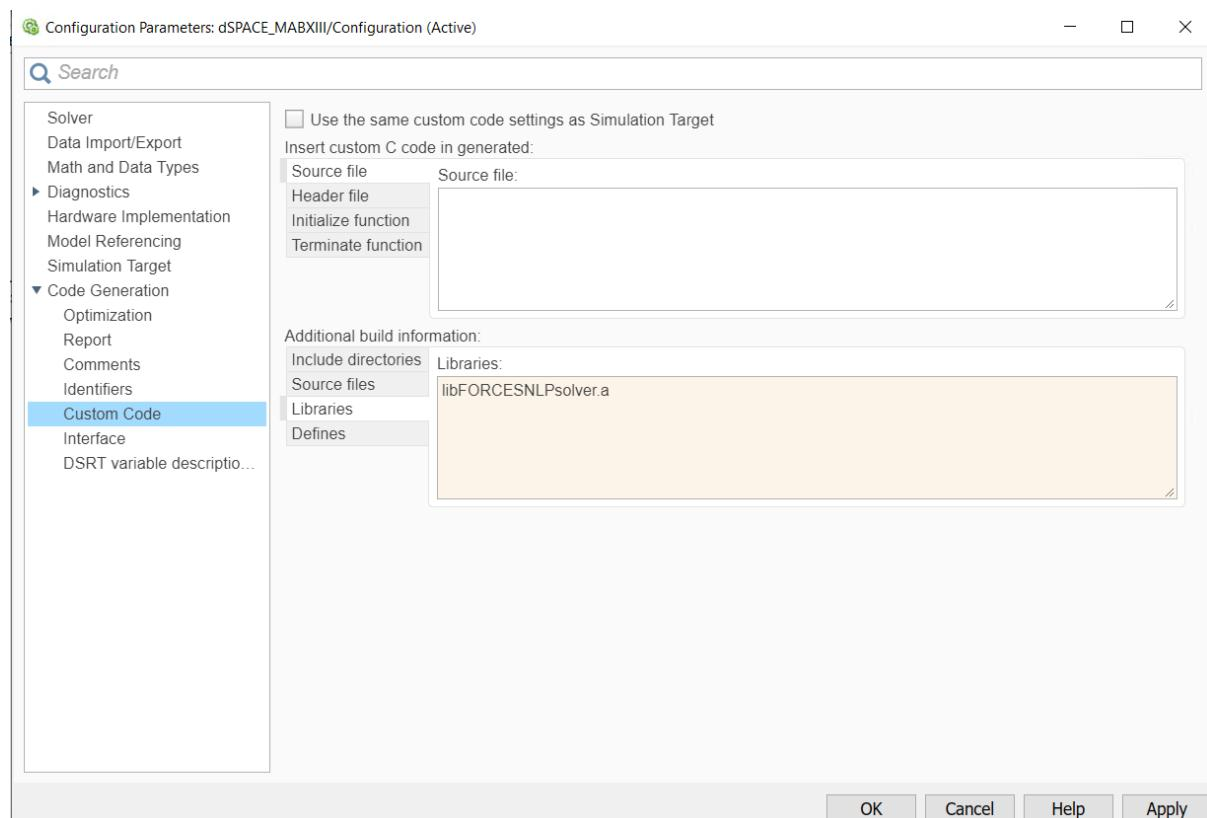

Figure 13.68: Add the libraries used for the code generation.
12) In the “Code Generation/Custom Code” tab, add the library file (see Figure 13.68):